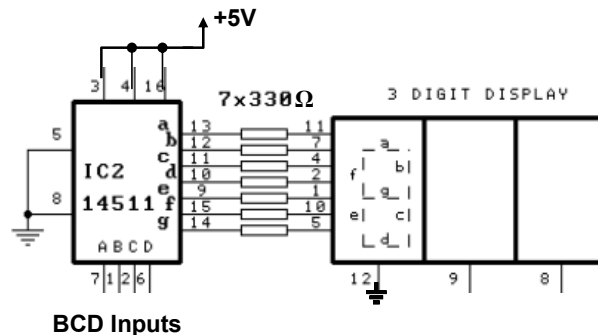

Figure 7-3 – Using the 4511 BCD-7-segment decoder.
Figure 7-3 illustrates the basic connections and use of the 4511 chip. Here we ground the latch-enable pin and tie the blanking and lamp-test pins high, so that one of the 7-segment display digits will continuously display the BCD input applied at pins 7-1-2-6.
- Construct the circuit of Figure 7-3. Note that we have just grounded one of the cathodes, so only one digit will be illuminated. Using logic switches or jumper wires, apply the appropriate BCD input to display the numbers 0-9.